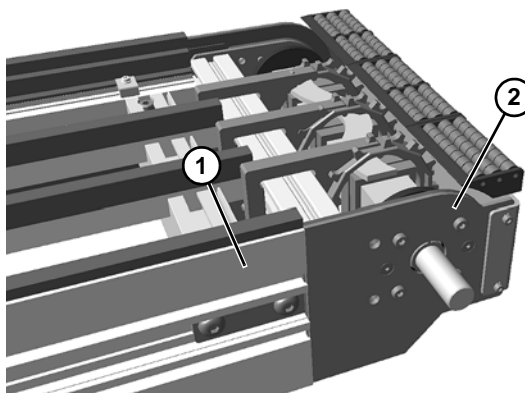

Figure 75
*When reinstalling the drive spindle tail assembly, the drive tail assembly (**Figure 75, item 1**) should mate flush with the conveyor frame (**Figure 75, item 2**).*